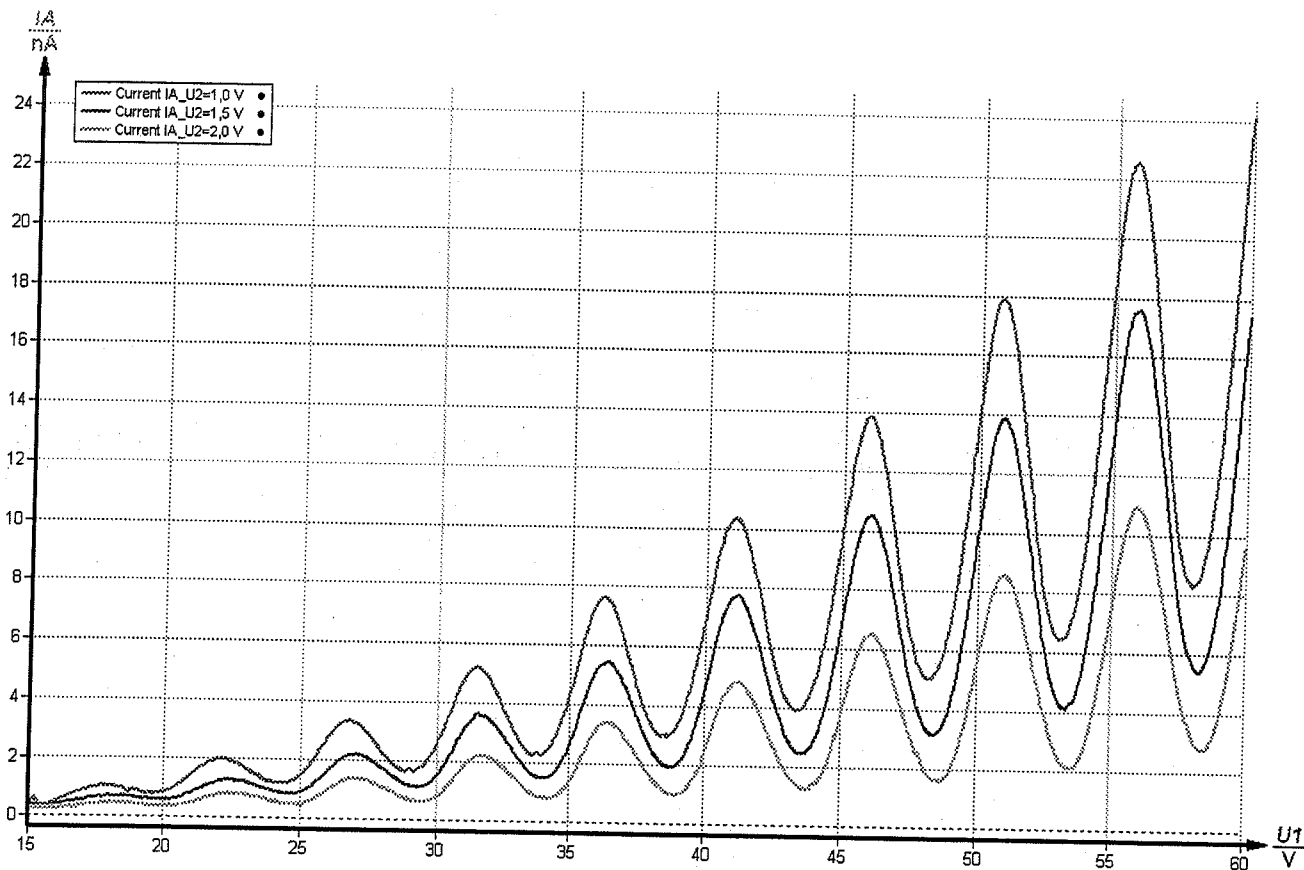

Fig. 9 Franck-Hertz-curve for Hg-tube and different counter voltages U_2
C) The programme allows manual or automatic increase of the accelerating voltage. Fig. 9 shows three curves that were plotted at different counter voltages U_2 (= 1 V; 1.5 V; 2 V).